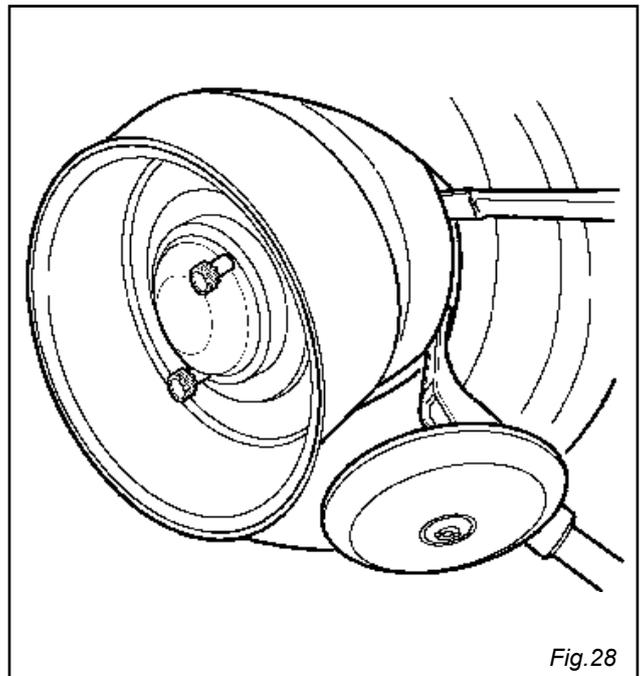

Fig.28
- 8) By means of levers (3) and (4) move the tool forward until red reference dot is lined up with the outside edge of the rim and about 1/4" (5 mm) from it. (fig.28)